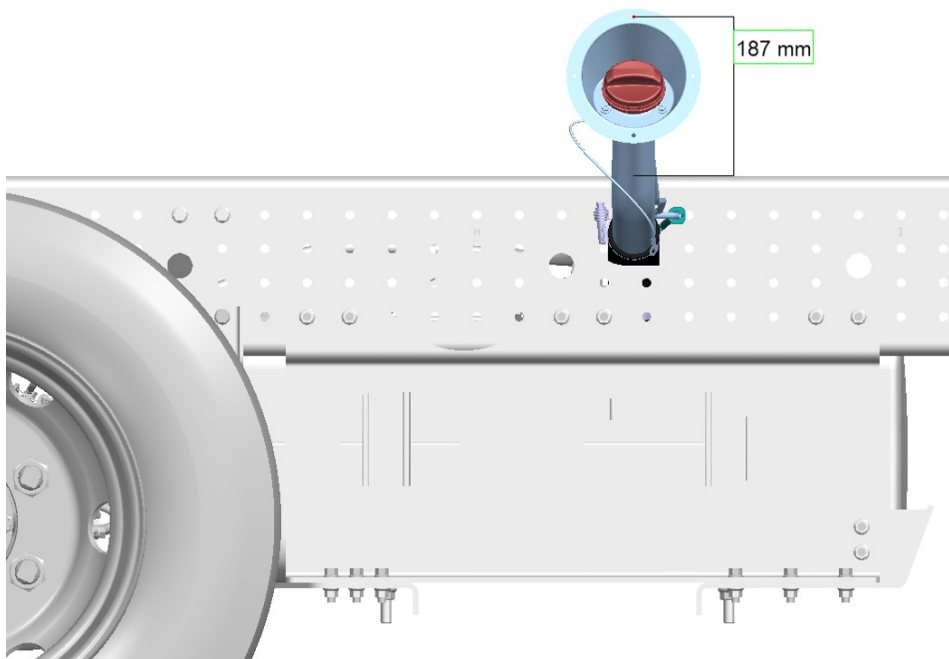

Fig.1
- Position of upper most mounting hole on fuel fill end to be 187mm above the height of the upper truck frame flange. See Fig. 1